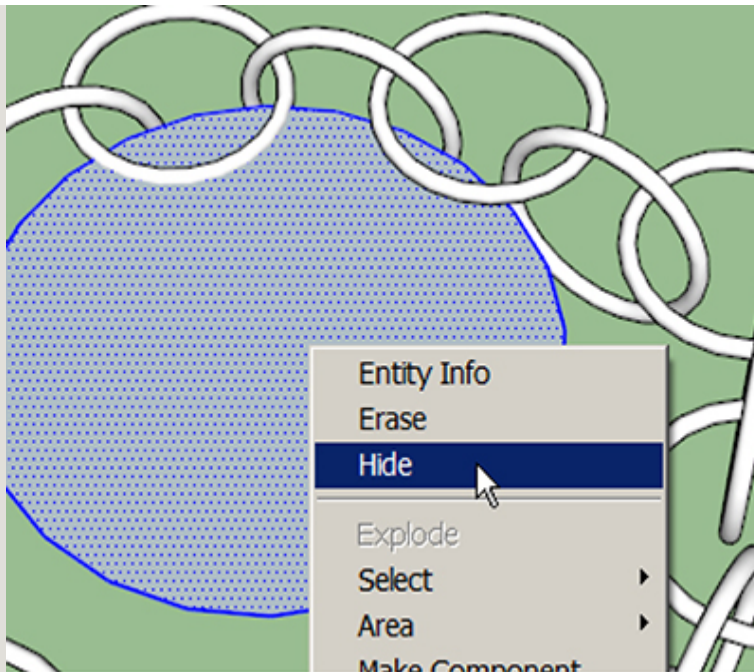

Figure 3-42 Hide geometry to get it out of the way.
- If the circle is in your way but you don't want to erase it, hide it by selecting it, right-clicking, and choosing Hide (Figure 3-42). Unhide it at Edit > Unhide.